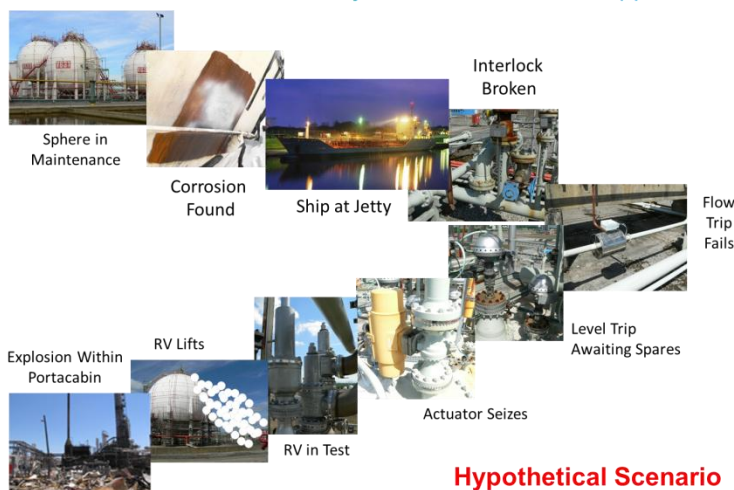

Figure2: Hypothetical LPG Sphere Overfill Scenario
- (a) LPG Storage Sphere Overfill Leading to Explosion in Temporary Building (see Figure 2)